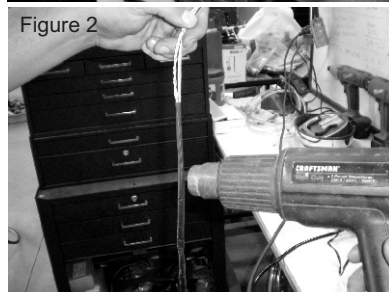

Figure 2
- Once you've soldered all the wires, essentially lengthening the left and right control harnesses, one at a time slide the heat-shrink tubing down over the solder point and use a heat gun to apply heat until the tubing has shrunk snugly around both wires and their soldered joint. Repeat for all the extended wires. Then slide the larger diameter heat-shrink tubing over the all the now covered connections and using a heat gun shrink that tubing snugly over them (figure 2).